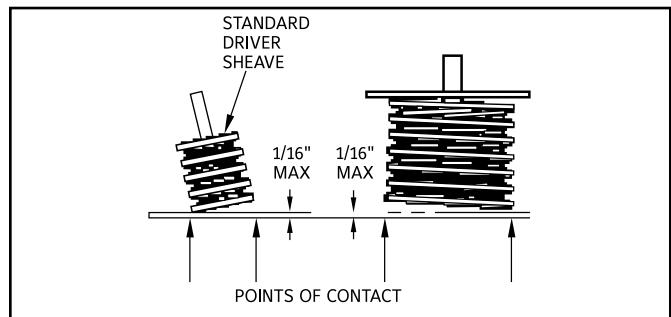

Figure 16 - Standard Drive Alignment
1. Place a straight edge across the driver and the driven sheaves as shown in Figure 16.
2. The straight edge should contact all four points as shown in Figure 16 indicating proper drive alignment.